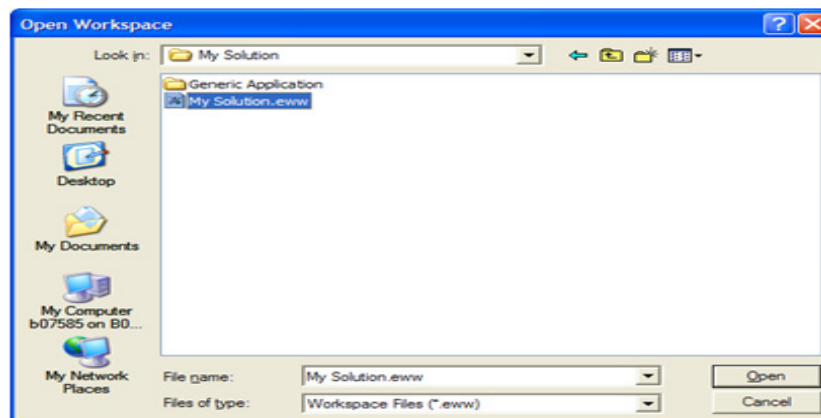

Figure 6-1. Opening Generic Application Space
1. Using the IAR Embedded Workbench, open the Generic Application work space (`My Solution.eww`) as shown in Figure 6-1.